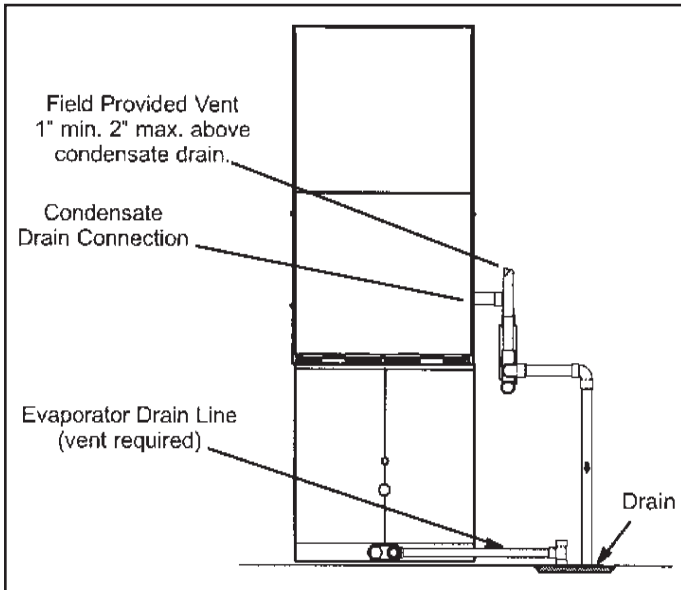
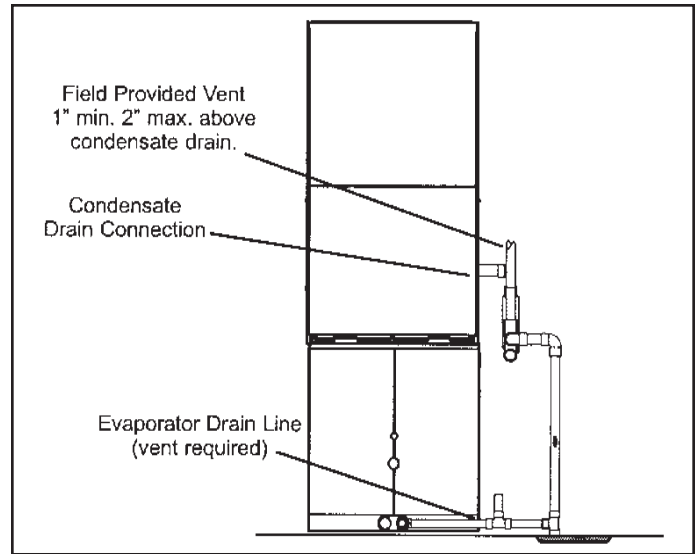

Figure 41. Evaporator Coil Using a Separate Drain
Figure 42. Evaporator Coil Using a Common Drain
5. Figure 41 shows the furnace and evaporator coil using a separate drain. If necessary, the condensate line from the furnace and evaporator coil can drain together. See Figure 42. The field provided vent must be a minimum 1" to a maximum 2" length above the condensate drain outlet connection.